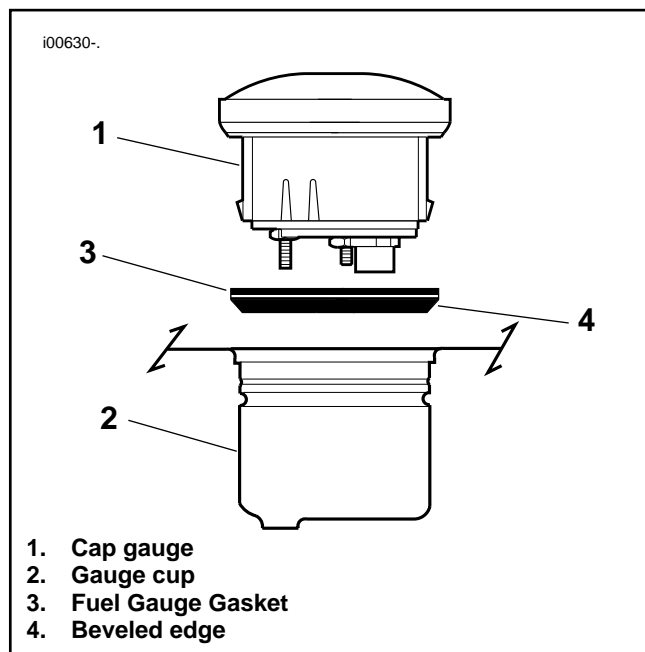

Figure 1. Fuel Gauge Gasket Placement on Cap Gauge
2. See Figure 1. Before placing the stock cap gauge (1) into the gauge cup (2) of the new fuel tank, remove the fuel gauge wiring. Refer to your model motorcycles Service Manual for instructions on removing and installing fuel gauge wiring.
3. Before placing the stock cap gauge (1) into the gauge cup (2) of the new fuel tank, remove the stock fuel gauge gasket.
4. Place the kit supplied fuel gauge gasket (3) onto the cap gauge, from the top or bottom, with the beveled edge (4) facing downward.